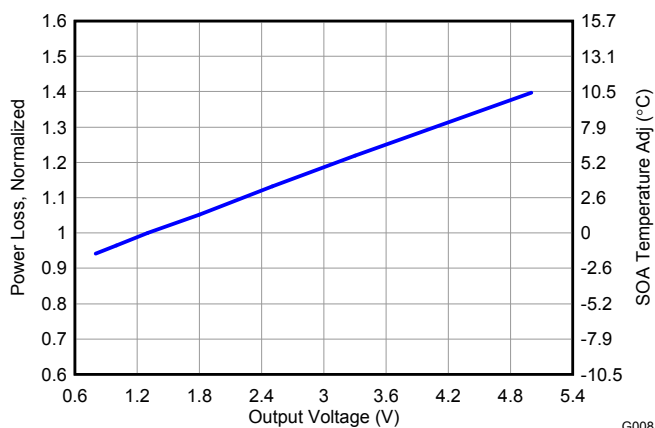

Figure 8. Normalized Power Loss vs. Output Voltage
- Normalized Power Loss for output voltage ≈ 0.98 (Figure 8)
- SOA adjustment for output voltage $\approx -0.29^\circ\text{C}$ (Figure 8)